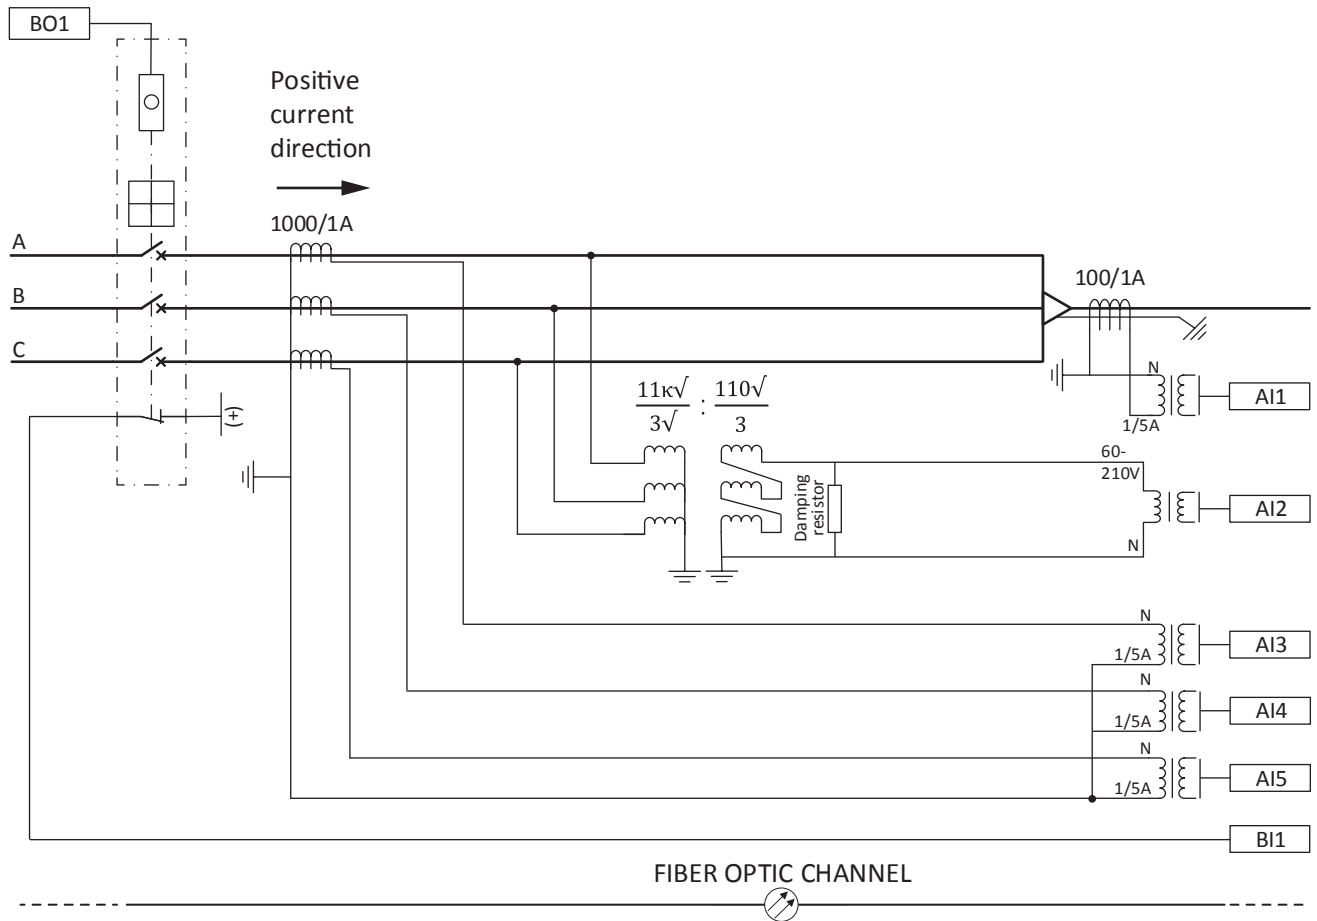

Figure 88: Relay interfaces and CT/VT connections for example case 1 relay at line end A
Figure 88 shows the connection details of the relay's analog inputs (AI), binary inputs (BI) and binary outputs (BO). CT and CBCT connections for phase currents and the residual current measurement required for line differential and directional
earth-fault protection are also shown in Figure 88. VT connections for phase voltage measurements and an open-delta connection for residual voltage measurement are also shown.